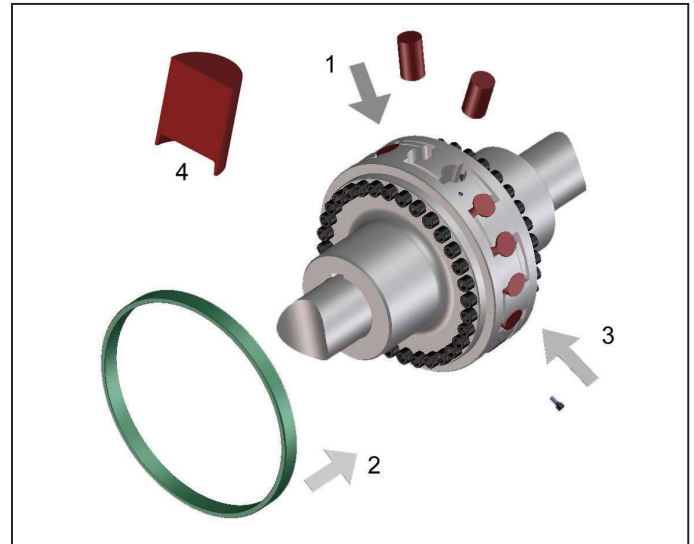

Fig. 15
- At first remove the cheese head screws (Fig. 15, pos. 3) and then the retaining ring (Fig. 15, pos. 2).
- Remove the buffers (Fig. 15, pos. 1).
- Mount new buffers of correct size with the hollow pointing inwards (see Fig. 15, pos. 4).
- Advance the retaining ring (Fig. 15, pos. 2) up to the contact face at the claw ring, so that the ring is seated centrally above the elastic buffers.